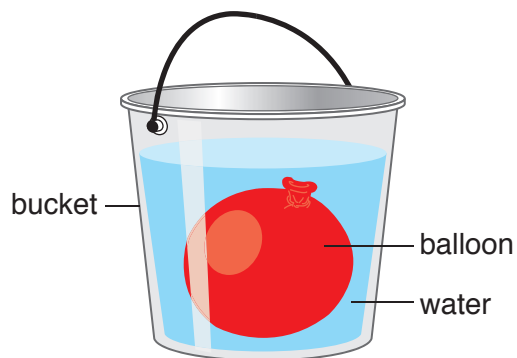

Figure 1
d. Completely submerge the inflated balloon in the water (see Figure 1).